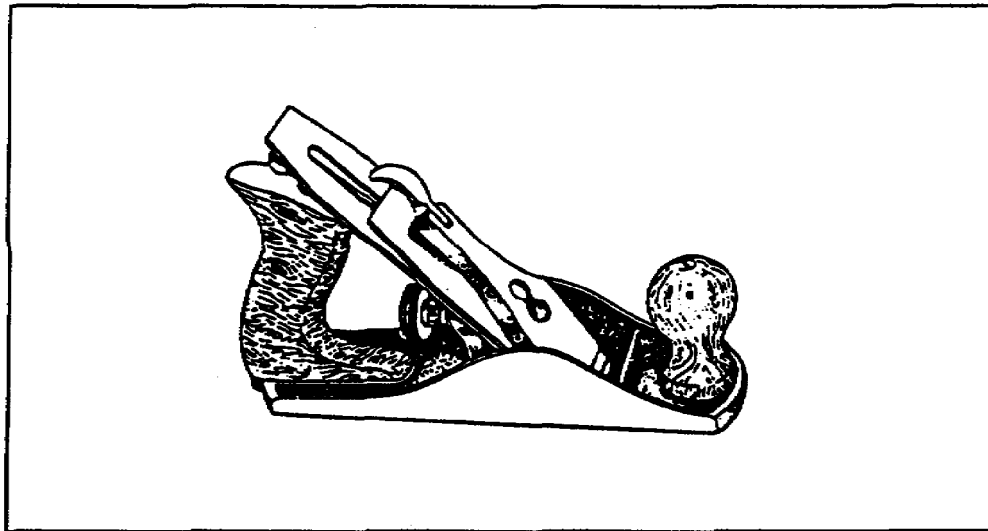

Figure 2-27. Smoothing plane
(3) Smoothing Plane. The smoothing plane is a short, finely set plane, which averages 12 inches in length (Figure 2-27). It is used for finishing uneven surfaces.